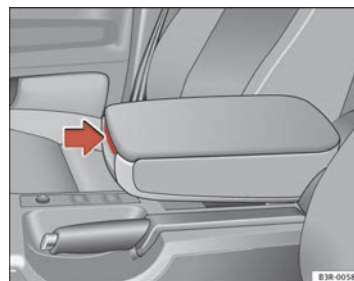

Fig. 115 Armrest between the driver seat and front passenger seat
- Press the release lever ⇒ fig. 115.